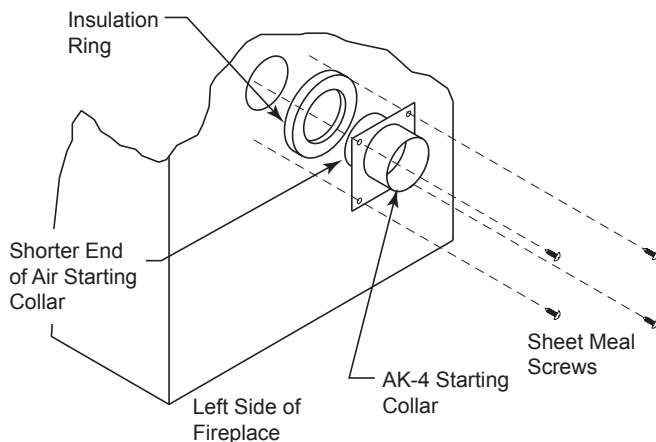

Figure 26 -
3. Place the starting collar (4") into the hole on the side of fireplace. Fasten it in place with the four sheet metal screws provided. *Figures 26 and 28*